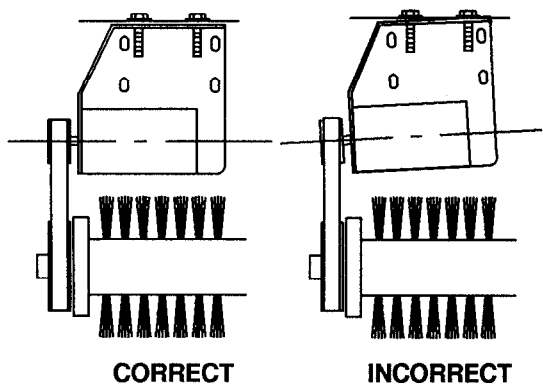

FIG. 14.
13. Observe belt position. Manually rotate brush with hands, if belt rubs on the sides of the pulleys, motor is not level. To level motor, turn only one tension adjustment screw a 1/4 turn at a time until belt is centered on pulley and motor is level. (Figure 14)